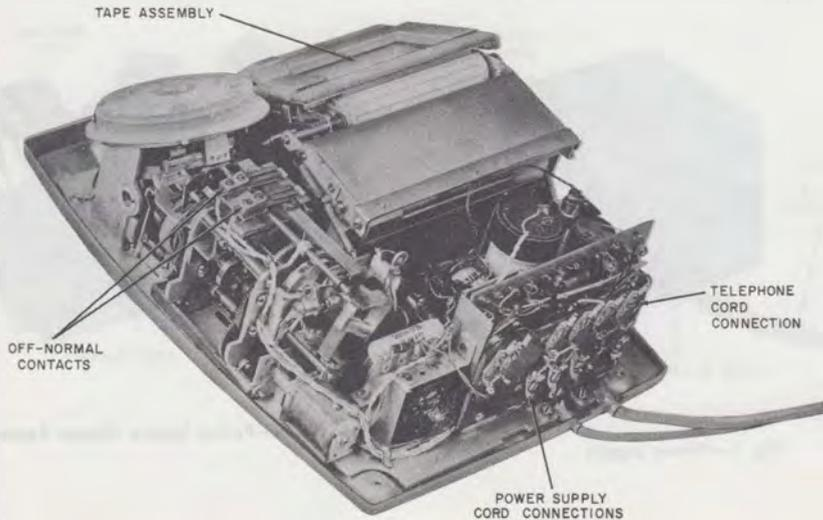

Fig. 5—KS-16844 *Rapidial* (Housing Removed)
(1) Carton 1 (Fig. 5):
**5.02** Two sets of off-normal contacts (Fig. 5 and 7) are provided. Their function is the same as the off-normal contacts in a conventional dial, to reduce receiver clicks during operation of *Rapidial*.
- Voltage between terminals 2 and 1, and 2 and 3 on terminal strip in *Rapidial* with voltmeter (Fig. 5).
- (1) Select a blank space on writing tape and record a known telephone number (see 4.05).
- (2) Place 1013A or 1011B (MD) test set (with button in monitoring position across BL and G leads of *Rapidial* telephone cord, Fig. 5).
- (3) Initiate call, listen for pulsing clicks; if pulsing clicks are not heard or if heard and wrong number is reached (and telephone set operation is normal), replace *Rapidial*.